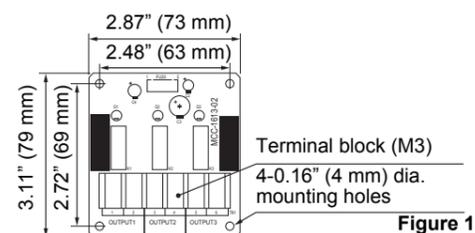

Figure 1
- (1) Before proceed an installation work, please make sure the power supply is OFF.
- (2) Insert four fixing supports ([3]) into the holes on the "Optional PCB". (See Figure 1)